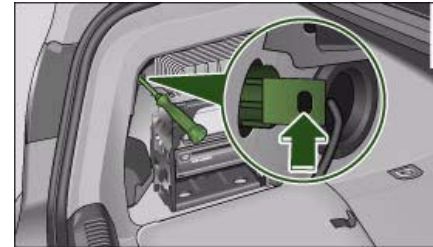

Fig. 273 Luggage compartment: Location of retaining screw for rear light
- Insert the screwdriver (from the tool kit) through the side opening in the plastic screw ⇒ fig. 273. ▶